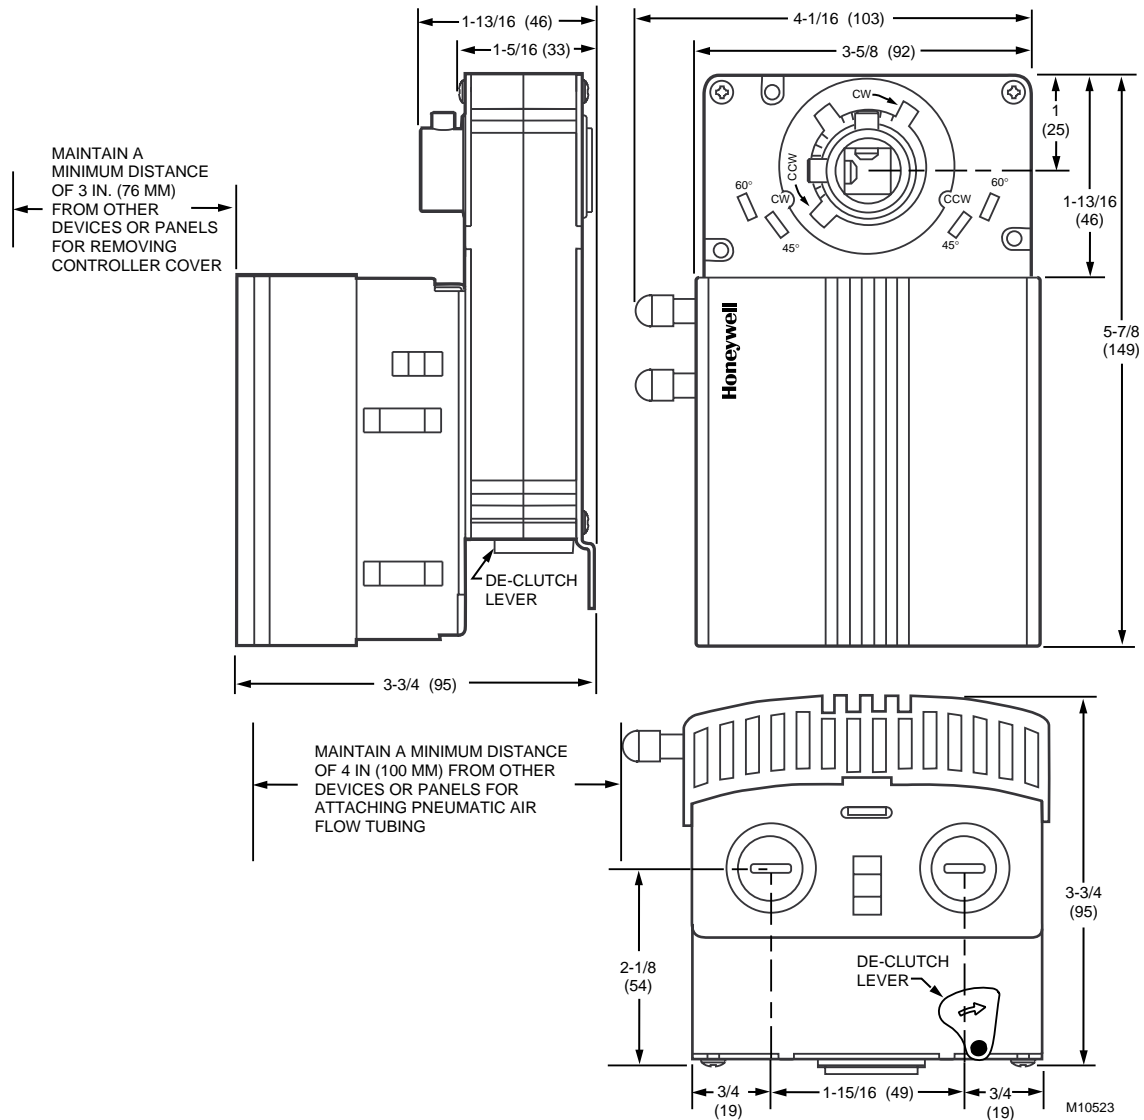

Fig. 2. W7751H mounting dimensions in in. (mm).
The ML6161B Direct-Coupled Actuator with De-clutch mechanism (see Fig. 2 for location) allows the installer to manually open or close the VAV box damper connected to the W7751H without power or software tool to command it.
Mount the W7751H on the damper shaft (horizontal only) and allow clearance for wiring, servicing and module removal. Avoid mounting the W7751H in areas where acid fumes or other deteriorating vapors can attack the metal parts of the actuator, or in areas where escaping gas or other explosive vapors are present. See Fig. 2 for mounting dimensions
The controller enclosure on the W7751H is constructed of a sheet metal housing and a plastic snap-on cover. Controller wiring on the W7751H is terminated to screw terminal blocks located under the snap-on cover. See Wiring section. The sheet metal housing has two 1/2 inch (13 mm) knockouts (see Fig. 2) compatible with 1/2 inch (13 mm) or 3/4 inch (19 mm) conduit.
*It is advisable to leave the dampers in an open position after W7751H installation to avoid the possibility of overpressurizing the ductwork on fan startup. Use the De-clutch lever (see Fig. 2 for De-clutch lever location) to open the box damper on W7751H controllers that are powered down, to prevent overpressurization in the ductwork on fan startup. To use the De-clutch lever, press and hold the lever in the direction of the arrow (this disengages the motor). Turn the damper shaft until the damper is open and release the lever. When power is restored to the W7751H controller, the controller synchronizes the damper actuator so that the damper is in the correct position upon startup.*